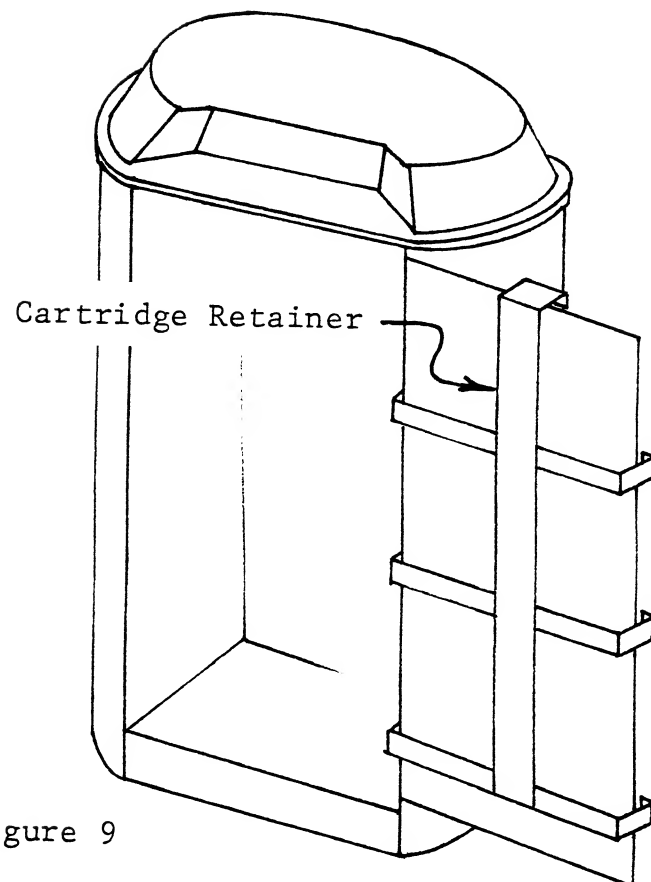

Figure 9
15. Remove the cartridge retainer from the back of the door. Peel protective paper from the door, and clamp the cartridge retainer back in place. Place featured cartridge packages in the metal cartridge retainer. (Figure 9)